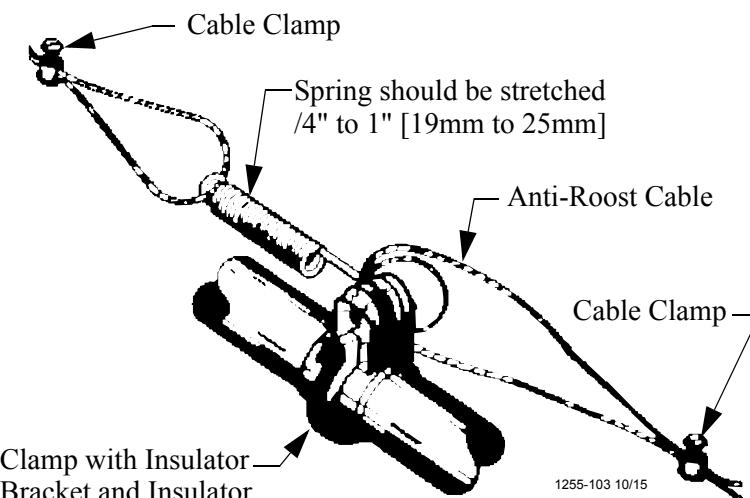

Figure 52. Anti-Roost Cable at the Hopper
4. Attach a spring in the center groove at the second anti-roost bracket and cut the cable at this point, see figure 52.
5. Thread the ends of the cable through the end of the spring. Pull the cable tight so there is 3/4" to 1" (20 to 25 mm) of stretch in the spring. Clamp the cable to form a loop and cut off any excess, see figure 52.
6. Attach the cable to the insulator. For best results, make a double loop around the anti-roost insulator in the center groove of the insulator and fasten with a 1/16" cable clamp as shown in Figure 52.